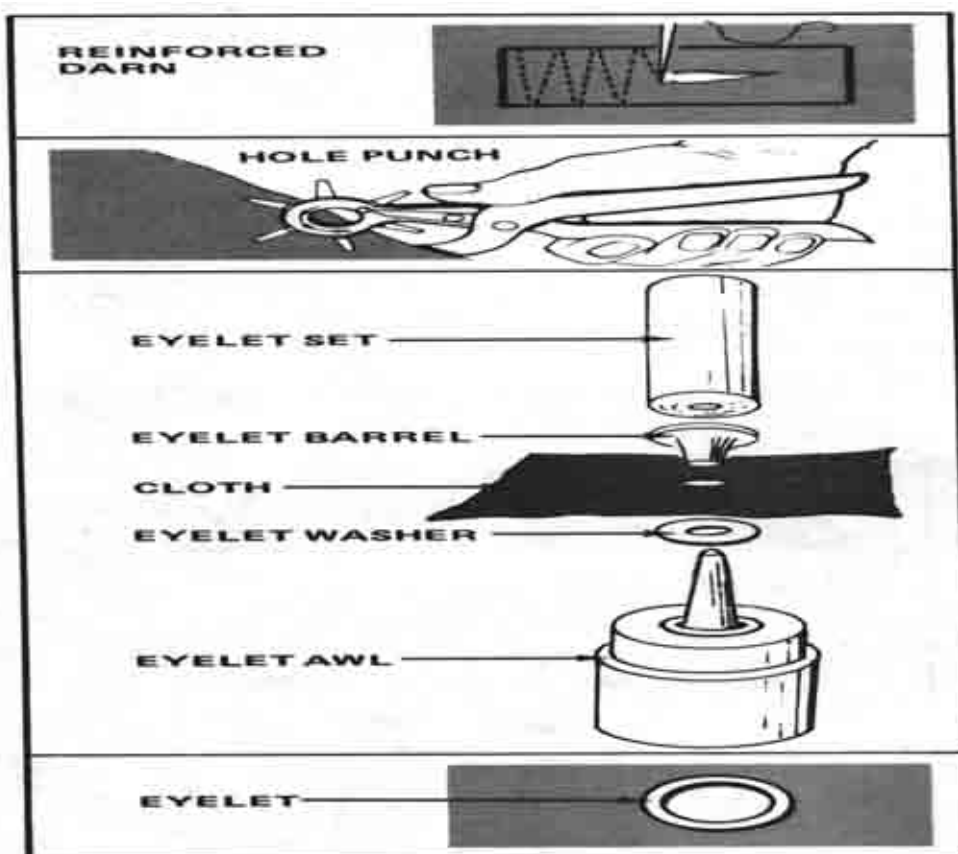

Figure 4-17. Replacing a metal eyelet
b. Replacing Metal Eyelets. To replace metal eyelets (Figure 4-17)--
- (1) Remove the defective eyelet by cutting it out with a pair of wire cutters. Do not cut the surrounding cloth.
- (2) Close the hole with a reinforced darn.
- (3) Obtain an eyelet the same type and color as the one removed.
- (4) Use a hole punch to make a new hole for the eyelet. Make the hole smaller than the eyelet barrel so that the eyelet will fit tightly.
- (5) Turn the cloth facedown. Insert the barrel of the eyelet down into the hole.
- (6) Place the washer on the awl.
- (7) Place the cloth facedown on the awl so that the barrel of the eyelet rests on the washer.
- (8) Position the eyelet set on the eyelet, and hold it in place.
- (9) Hit the top of the eyelet set with a mallet to set the eyelet in the cloth.